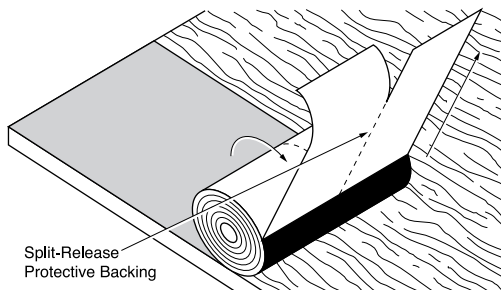

Figure 5-5: Application using the “Roll-Out” method
7. Beginning with the already peeled release film, continue to peel both sections of film from the roll, pulling the roll parallel to the eaves (Figure 5-5). Be sure the underlayment lays flat and is sticking well.